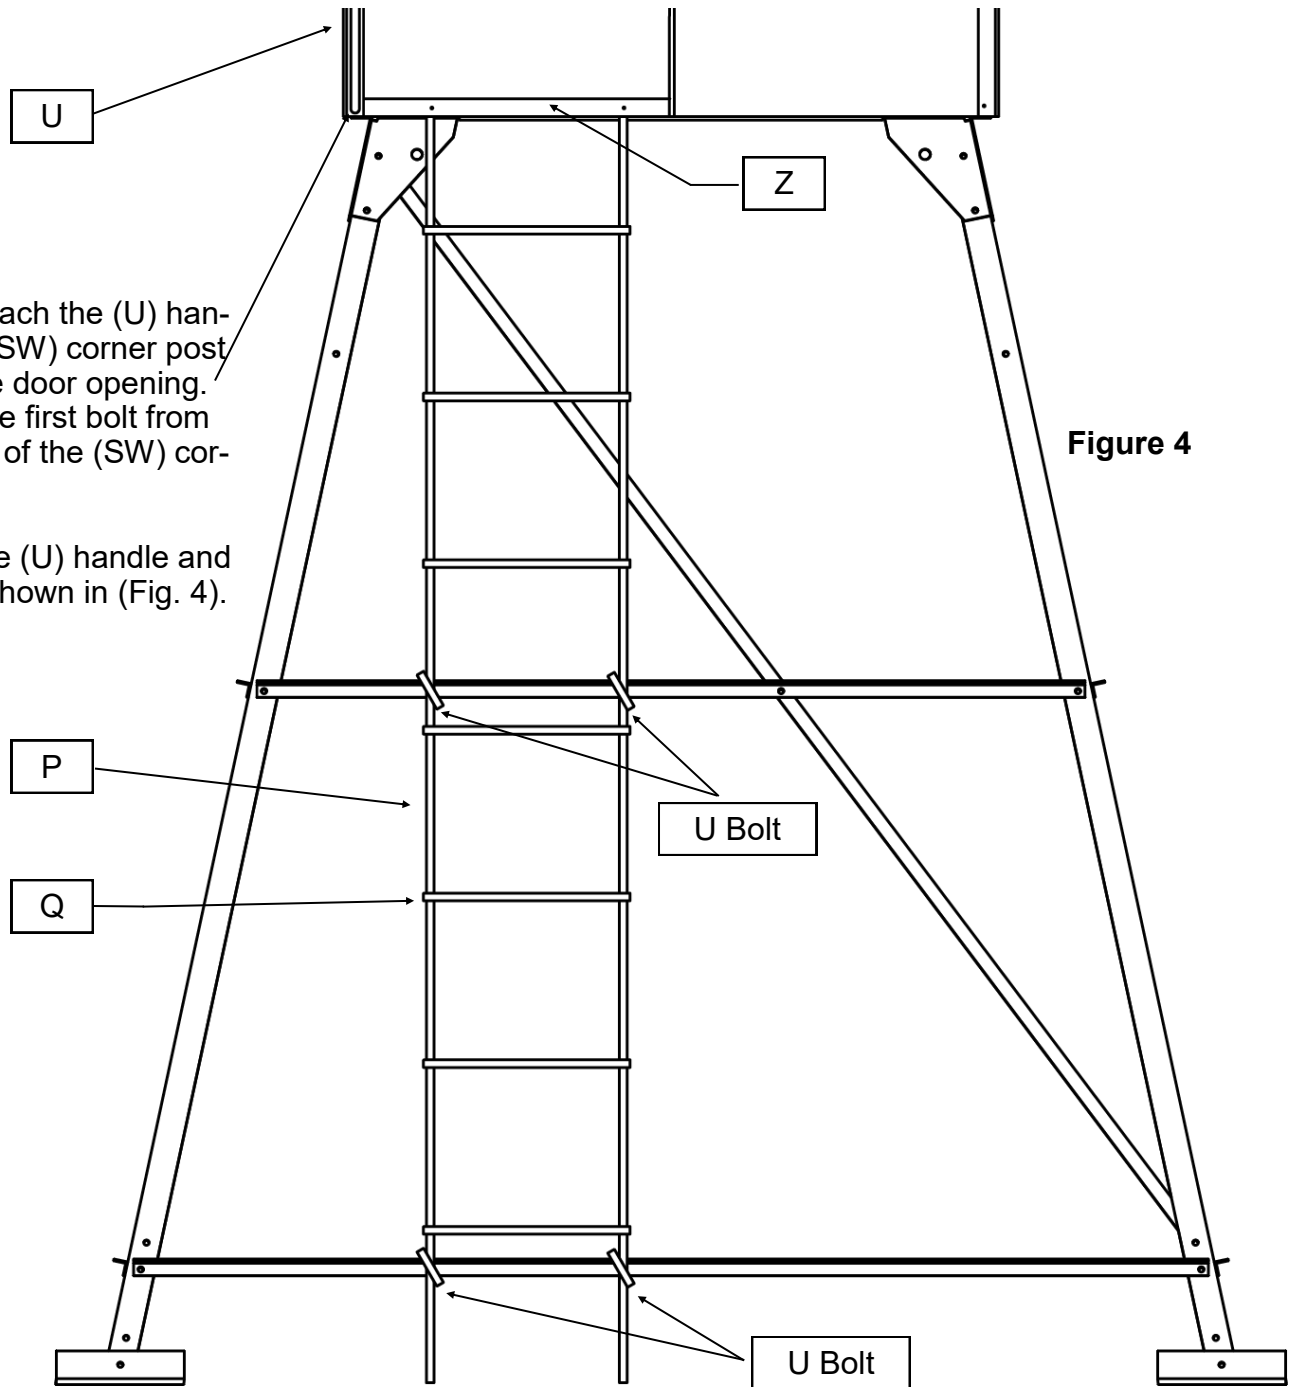

Figure 4
Position the (U) handle and attach as shown in (Fig. 4).
Attach top two holes in ladder runners using existing bolts used to attach the "Z" plate, underneath the blind (opposite the "Z" and behind the angle iron supporting the floor). (Fig. 4).